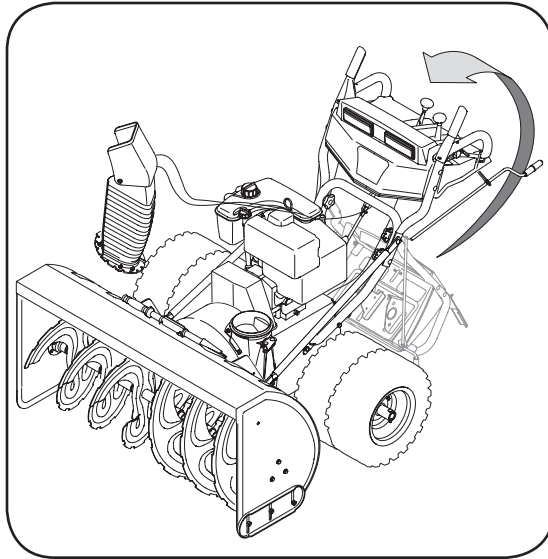

Figure 3-1
- a. Remove the lower star knob and carriage bolt from each side of the lower handle. Pull up and back on upper handle as shown in Figure 3-1. Align upper handle with the lower handle. Make certain the springs at the lower end of the auger and drive cables are securely hooked into their respective actuator bracket.